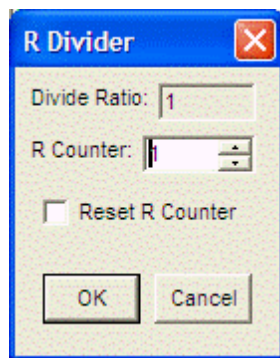

Figure 12. R Divider Window
6. Program the R (reference) divider by clicking the R DIVIDER box at the top of the main window. Set the desired value and click OK (see Figure 12).
The R Divider window shown in Figure 12 is accessed by clicking the R DIVIDER box on the main window. It allows you to set the reference divider. If this box is colored gray, the PLL is off. To turn the PLL on, click the PLL MODE box at the top of the main window, and select Norm Op.